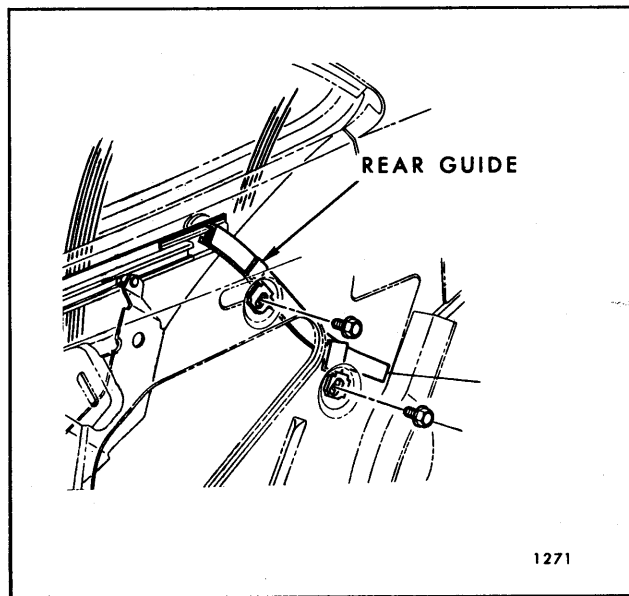

Fig. 7-31—Rear Quarter Window Rear Guide Assembly - "Z-37" Styles
2. As shown in Figures 7-31, 7-40, 7-41 and all phantom views, rear guides are retained by two bolts or adjusting studs. By providing a minimum of support for rear quarter window,